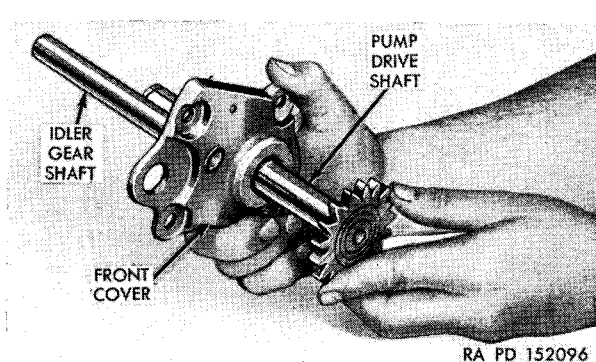

Figure 357. Removing or installing input-scavenge and converter-circulating-pump drive shaft.
Remove the drive shaft from the cover (fig. 357). Tap the idler shaft out of the cover being careful not to lose the retaining ball.
- (2) Inspect the drive shaft and drive gears for burrs in the roller grooves. If burrs are found, remove them with a soft stone. Inspect the three rollers for burrs. If there are burrs, replace the rollers.
- (3) Inspect the idler-gear bushings for defects. If the bushings are defective, press them out and install new ones using an arbor press. Ream the bushings to the proper size (par. 105).
- a. Install the idler-gear shaft and retaining ball in the pump-front cover (fig. 359). Install the pump drive shaft in the cover (fig. 357). Install